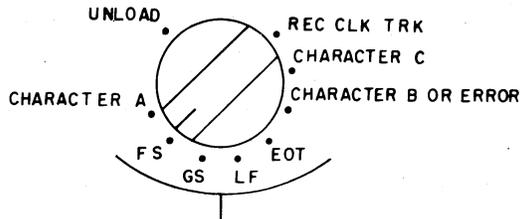

Figure 6 - Settings of Function Selector Switch to Select the Additional Search Characters or Error Function
3.19 When all of the desired characters and operating options are programmed, place the TP322465 card in connector XZ5 of the module. Label the function selector switch settings on the control panel to correspond to the selected characters (see Figure 6).